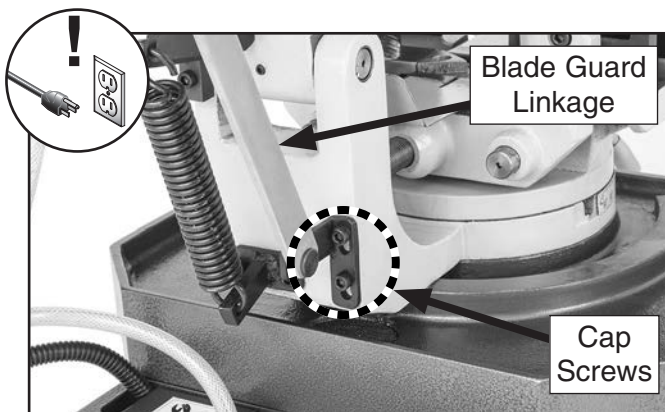
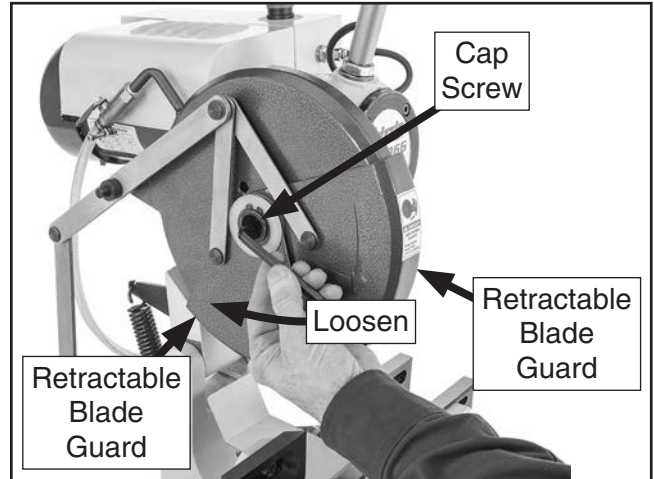

Figure 30. Location of blade guard linkage and cap screws.
Figure 31. Removing arbor cap screw.
2. Disconnect blade guard linkage by removing cap screws connecting linkage to base of column neck (see **Figure 30**). This releases tension on retractable blade guards (see **Figure 31**).
3. Remove arbor cap screw (see **Figure 31**). It has left-hand threads and loosens when turned clockwise.